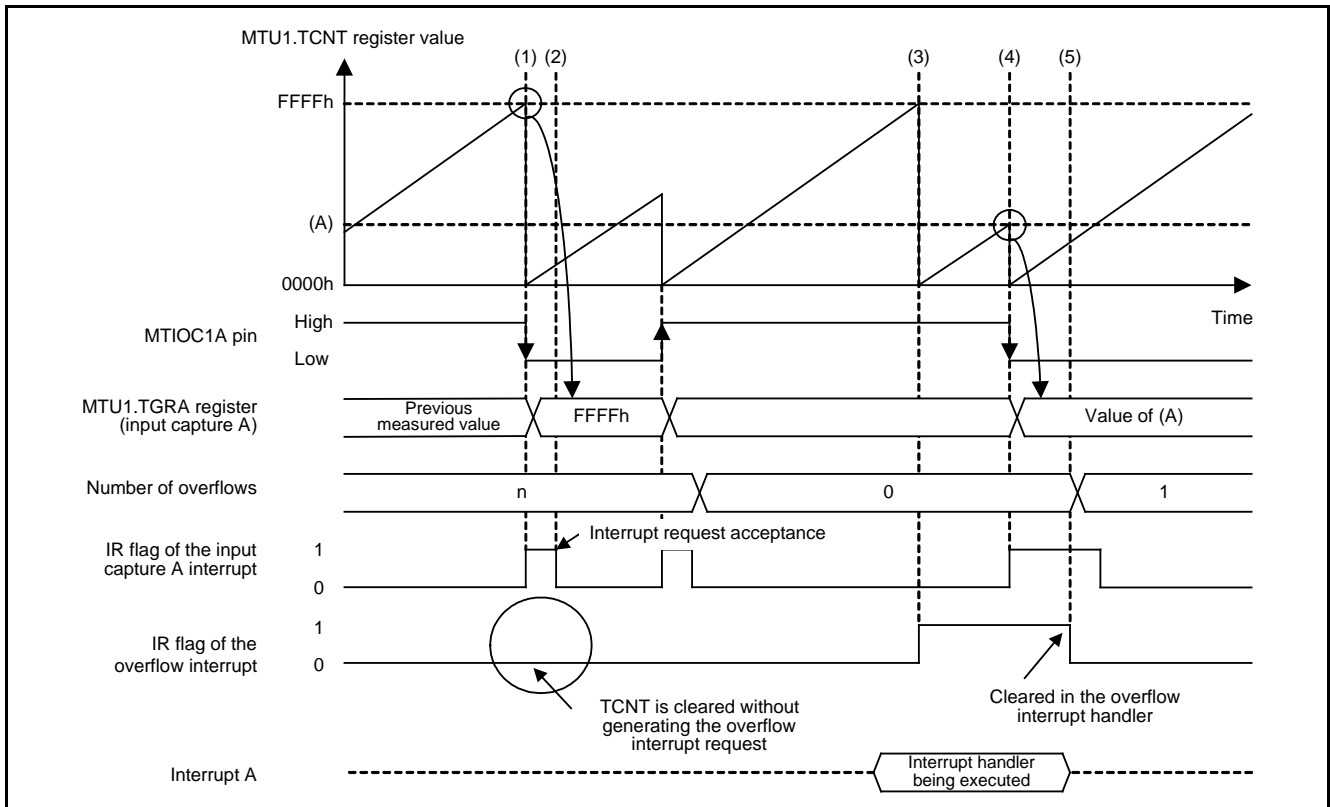

Figure 5.12 Timing Diagram When an Input Capture and Overflow Occur Simultaneously
- (1) When a falling edge occurs on the signal input to the MTIOC1A pin while the MTU1.TCNT register value is FFFFh, the MTU1.TCNT register is cleared and the input capture A interrupt request is generated after FFFFh in the MTU1.TCNT register is transferred to the MTU1.TGRA register. If an overflow and counter clear occur simultaneously, the counter clear has higher priority. Thus the overflow interrupt request is not generated.
- (2) In the input capture A interrupt handler, the MTU1.TGRA register value (FFFFh) is read and the pulse width is calculated.
- (3) When the MTU1.TCNT register value overflows while an interrupt handler (hereinafter referred to as interrupt handler A) other than an overflow interrupt handler and input capture A interrupt handler is being executed, the overflow interrupt handler is delayed.
- (4) When a falling edge occurs on the signal input to the MTIOC1A pin while interrupt handler A is being executed, the MTU1.TCNT register value is transferred to the MTU1.TGRA register and an input capture A interrupt request is generated (input capture A interrupt handler is delayed).
- (5) When interrupt handler A is completed, the overflow interrupt which has a higher interrupt priority level is executed first. In the overflow interrupt handler, the number of overflows increments by 1. In the input capture A interrupt handler which is subsequently accepted, the pulse width is calculated.
Figure 5.12 shows the Timing Diagram When an Input Capture and Overflow Occur Simultaneously. (1) to (5) in the figure correspond to (1) to (5) in the description above.